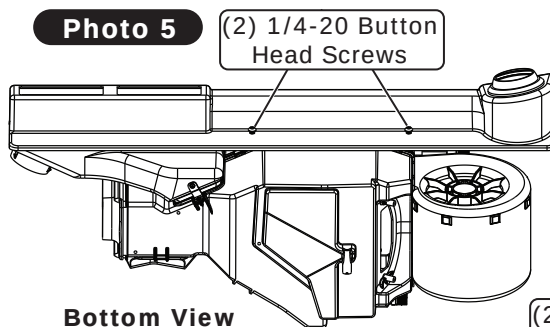

Figure 1
4. Using (2) 1/4-20 button head screws secure the plenum to the dash bracket (See Photo 7, and Figures 1 and 2, below).